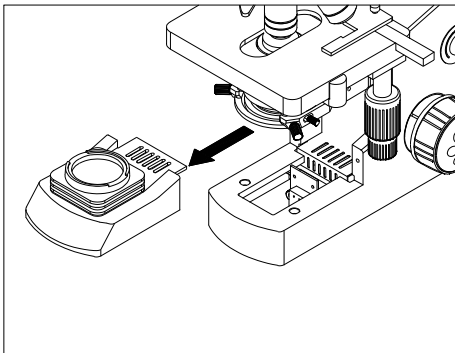

Fig. 11
1. Pull out the condenser holder as shown in Fig.11.
2. Hold the bulb① after you wrap it with gauze or other protection materials and then insert its pin② deeply into the jack in the lamp holder.